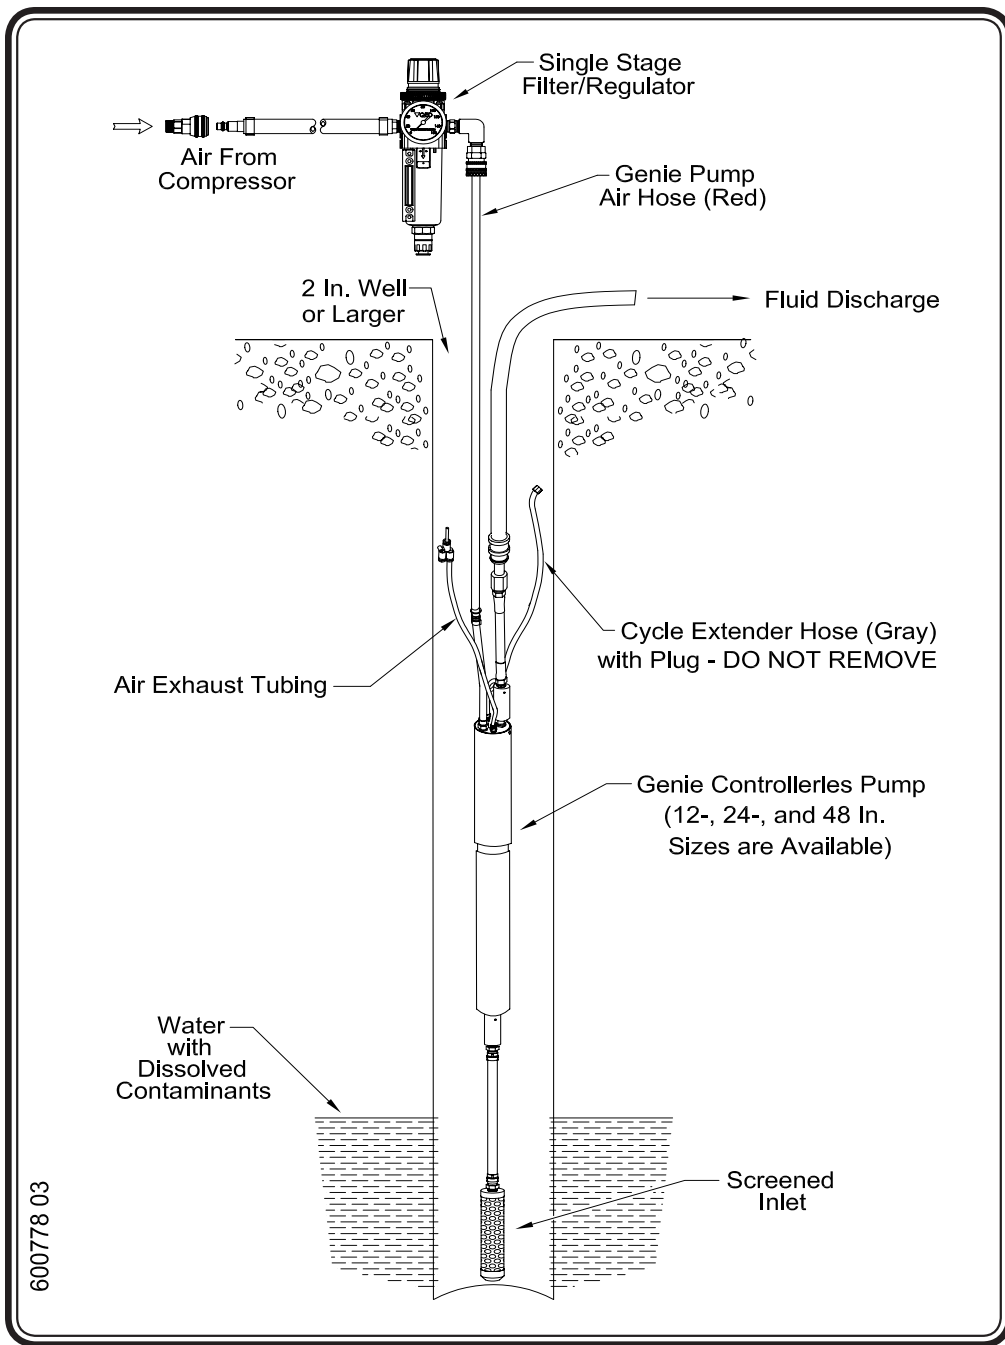

Figure 20 - Genie System with Inlet Screen
- Connect the male fitting on the end of the Genie bladder pump intake hose to the female fitting on the intake screen. (See Figure 20)